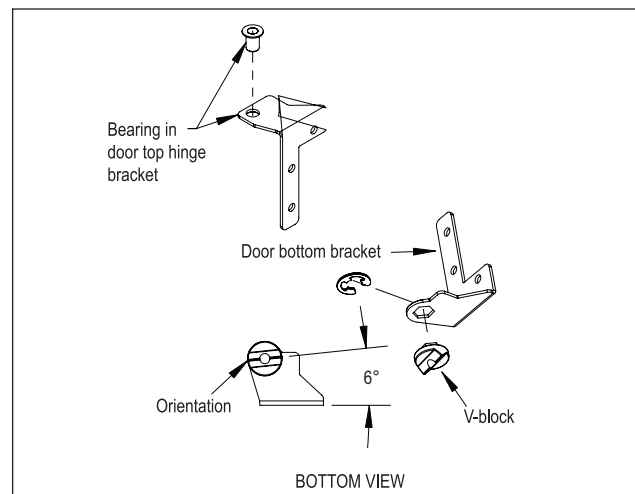

Figure 8: Bearing and V-Block
- Insert bearing into door top hinge bracket (Figure 8).
- Insert V-block into door bottom hinge bracket and attach with e-clip (Figure 8). Note the orientation of the V-block.